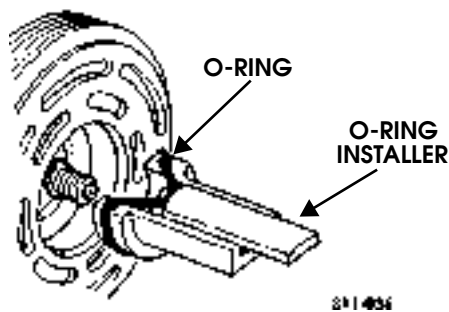

Figure 11-45: O-Ring Installer
- Dip new seal seat O-ring in clean PAG oil and install onto O-ring installer (Figure 11-45).